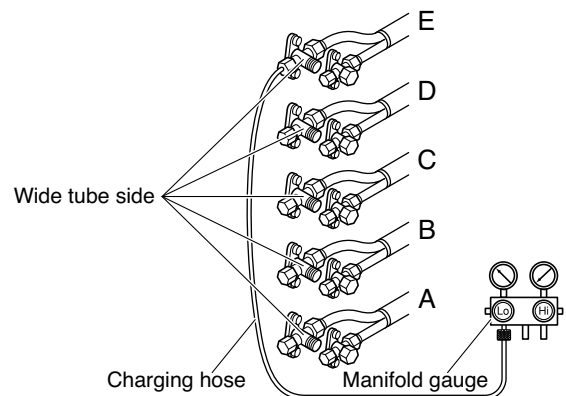

Fig. 23
- (2) Connect the manifold gauge to the charging port at the valve on the wide tube side of tube E. Purge the air from the charging hose. (Refer to Fig. 23.)
- (3) Perform cooling operation or forced cooling operation. When the pressure at the low-pressure side is 0.05 – 0.1 MPaG (0.5 – 1 kg/cm²G), fully close the spindles at the valves on the wide tube side of tubes A, B, C, D and E, and immediately stop operation. (Refer to Fig. 23.) In the winter, the outdoor unit may stop after 5 – 10 minutes of operation. This is in order to protect the indoor unit heat exchanger from freezing and does not indicate a problem.